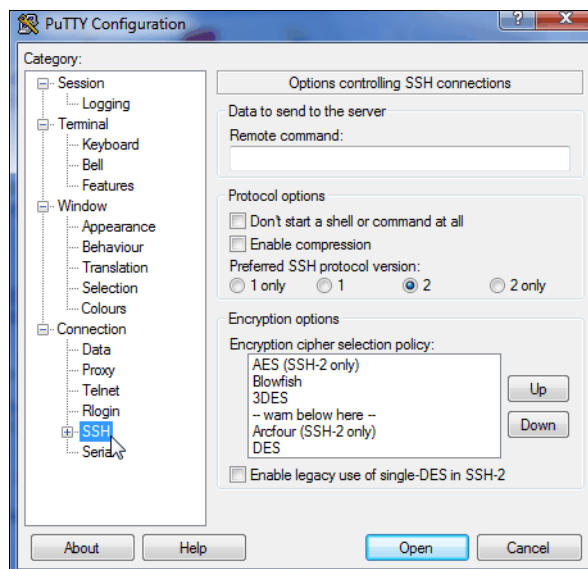

Figure A-10 SSH protocol version 2
- From the Category pane on the left side of the PuTTY Configuration window, click **Connection** → **SSH** to open the PuTTY SSH Configuration window (Figure A-10).